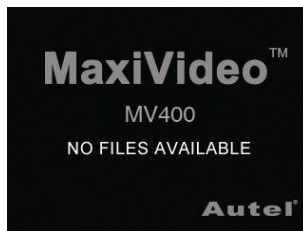

Fig. 25
- ✓ When you delete all the photos or videos, a “**No Files Available**” message appears on the screen. (Fig. 25)